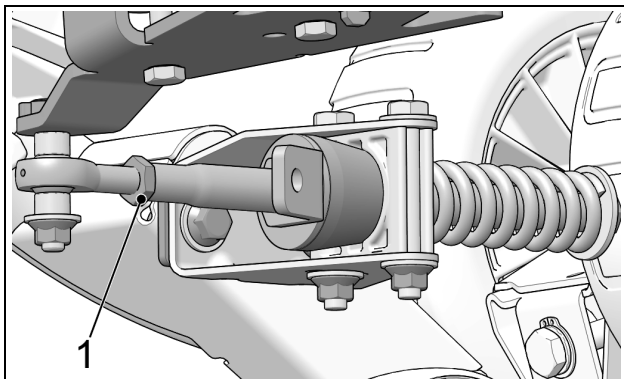

Figure 7
- When angle of attack is correctly set, tighten the jam nut (1) back against the stabilizing arm to 40 N•m [30lb•ft] of torque. See Figure 7.